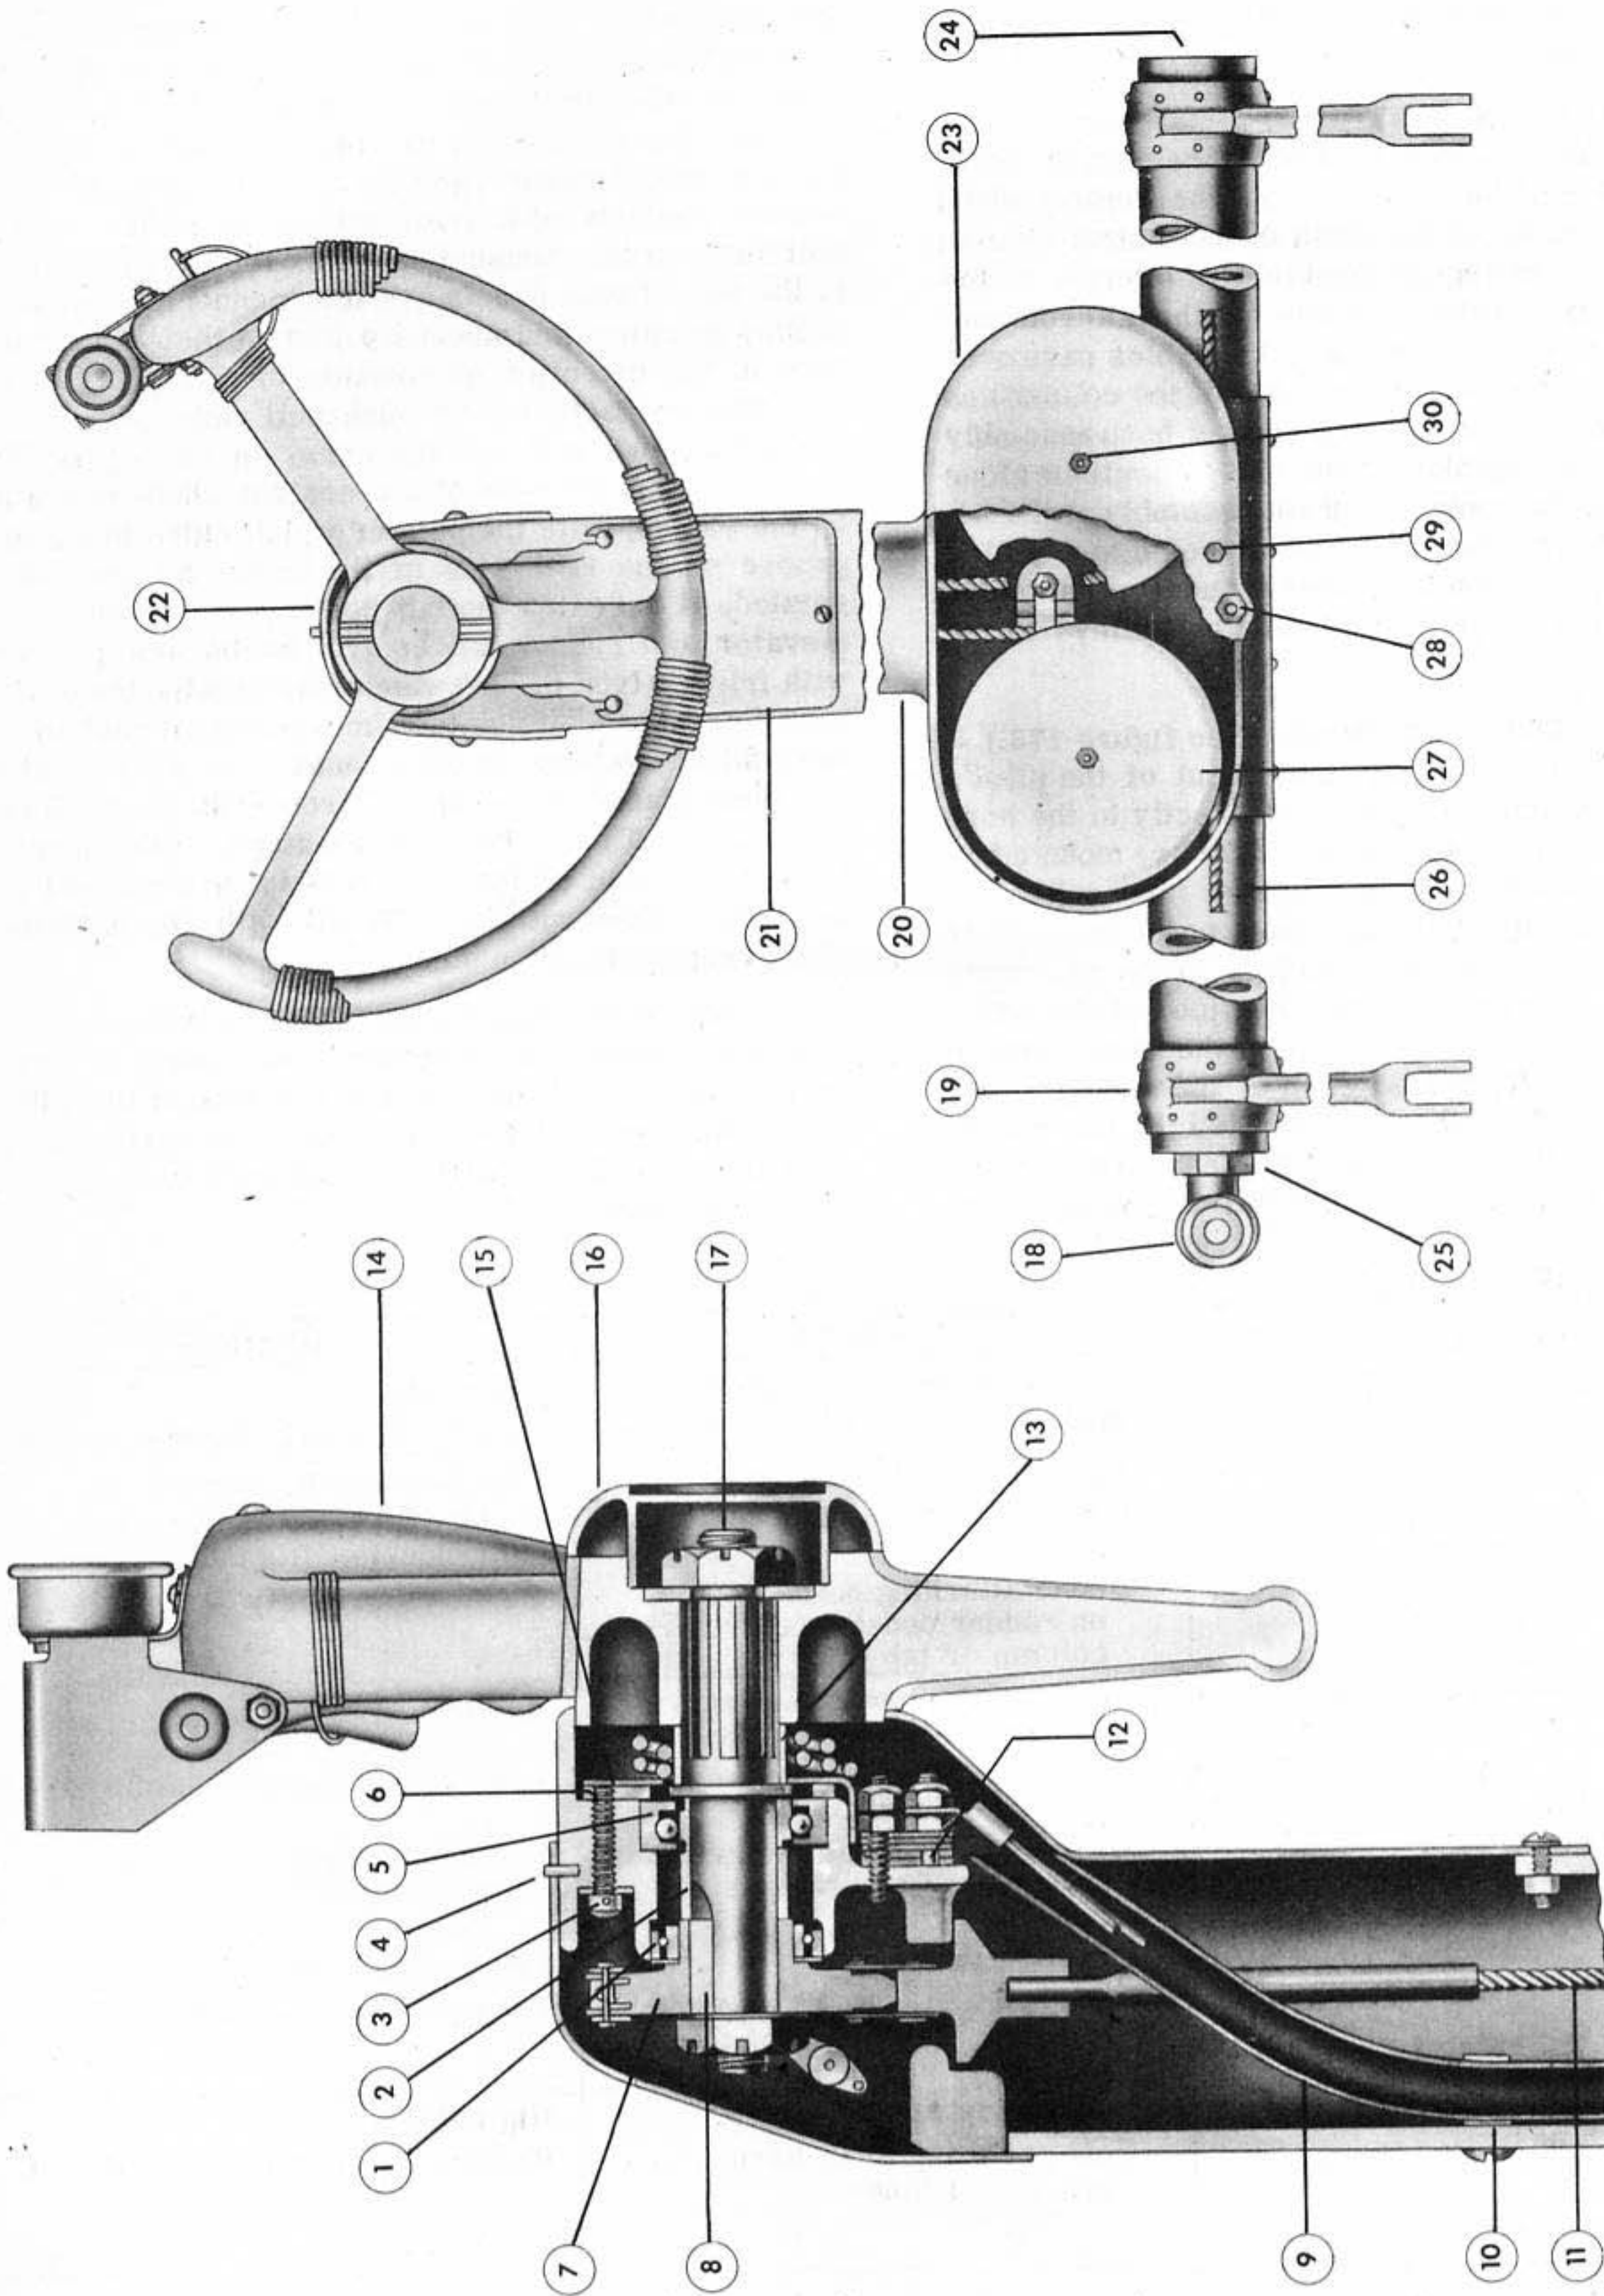

Figure 171 - CONTROL COLUMN
(3) CONTROL COLUMN AND WHEEL. (See figure 171.) - The control column in the pilot's cockpit and the control wheel at the top of the column provide for longitudinal and lateral control of the airplane. Forward and aft movement of the column lowers and raises the nose. Conventional movement of the wheel provides lateral balance.